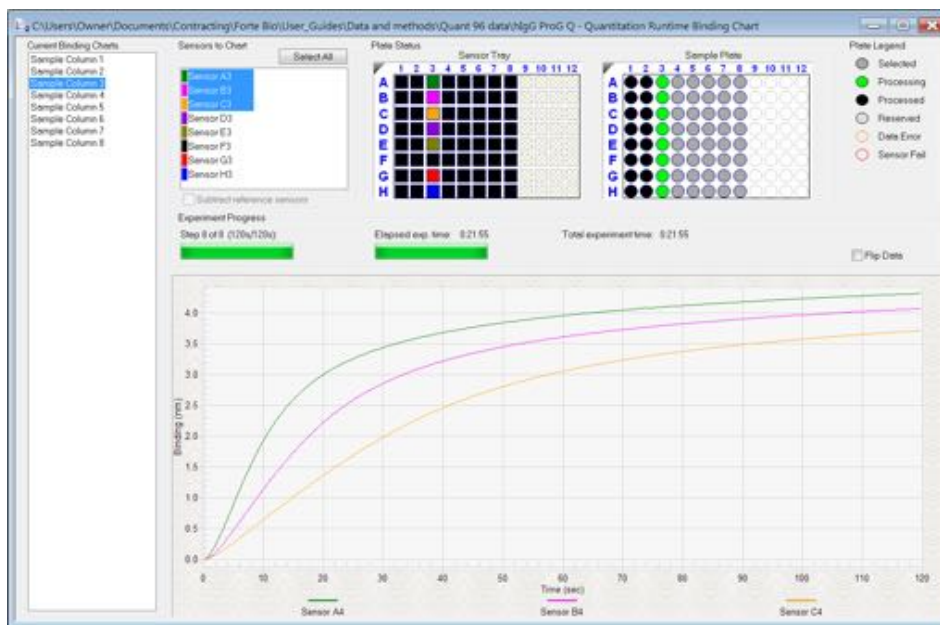

Figure 6-56: Runtime Binding Chart Window
If the **Open runtime charts automatically** check box is selected in the Run Experiment window, the Runtime Binding Charts are automatically displayed when data acquisition starts (see Figure 6-56). The **Runtime Binding Chart** window displays the current step number, time remaining for the current step, (total) elapsed experimental time, and total experiment time.
2. Select a sub-set of sensors for a displayed column under **Sensors to Chart** box (see Figure 6-56).